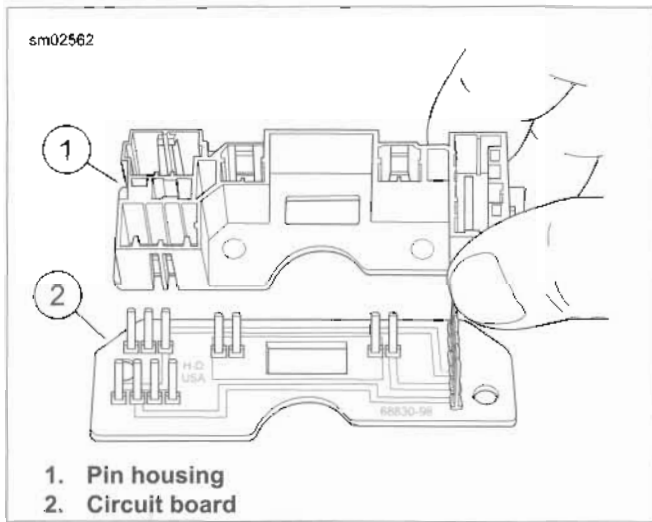

Figure 7-37. Pin Housing and Circuit Board
- See Figure 7-37. Remove screw, pin housing (1) and circuit board (2) from base.